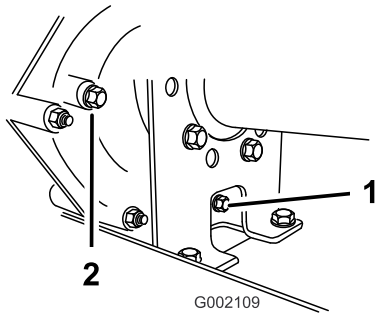
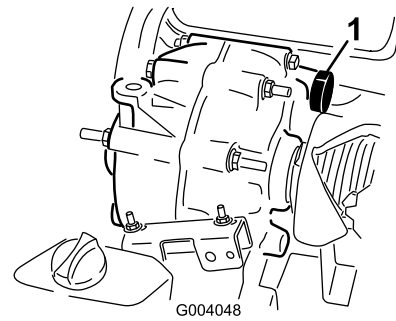

Figure 47
Figure 48
2. Wipe the area around the fill and drain plugs clean with a rag (Figure 47).
4. Remove the fill plug by rotating it counterclockwise (Figure 47).
5. Remove the drain plug by rotating it counterclockwise (Figure 47).
6. Install and tighten the drain plug and gasket into the drain-plug hole of the transmission (Figure 47).
7. Fill the reservoir (Figure 48) through the fill-plug hole with approximately 1.4 L (1-1/2 qt) of the specified oil or until the oil level in the transmission is even with the bottom of the threads. (Figure 47).
8. Install and tighten the fill plug and gasket into the fill-plug hole of the transmission (Figure 47).
10. Check the oil level and add more oil if the level is below the threads of the fill-plug hole (Figure 47).